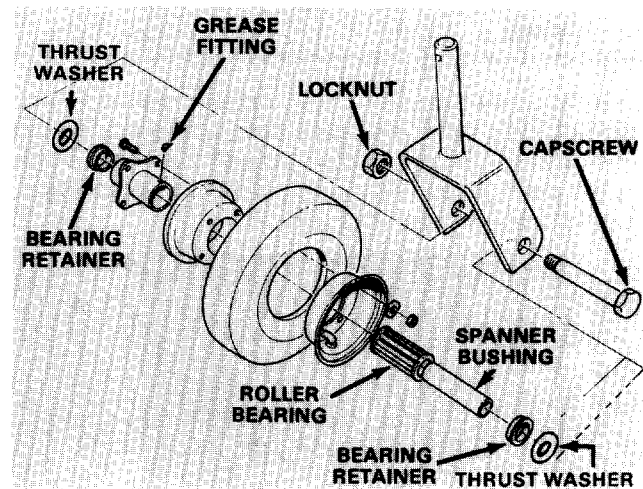

Figure 26
1. Remove locknut from capscrew holding castor wheel assembly between castor fork (Fig. 26). Grasp castor wheel and slide capscrew out of fork.
**Note:** Account for the two thrust washers (Fig. 26).
2. Tip wheel to the side and allow spanner bushing to fall out (Fig. 26).
6. Pump grease through grease fitting on wheel (Fig. 26) until bearing is greased thoroughly.